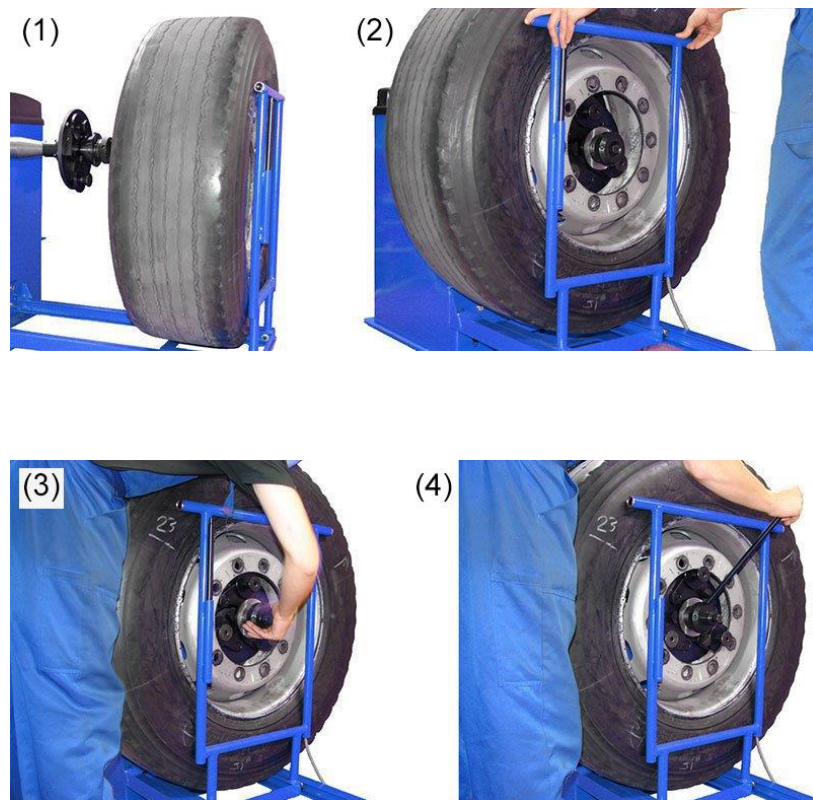

Fig. 5.13 Truck wheel mounting
With open hood and the lift carriage maximally moved from machine roll the wheel on machine fig. 5.13 (1).
Pulling the carriage with the wheel towards the holder lift the wheel gradually (button 10, fig 2.1) until it find itself in axis with balancer's spindle fig. 5.13 (2).
Screw the holder's nut in order half-open pivots touch the edge of the rim central hole fig. 5.13 (3)
Using the rod P fig. 5.13 (4) screw firmly the nut and simultaneously lower the lift and move the carriage to the right.